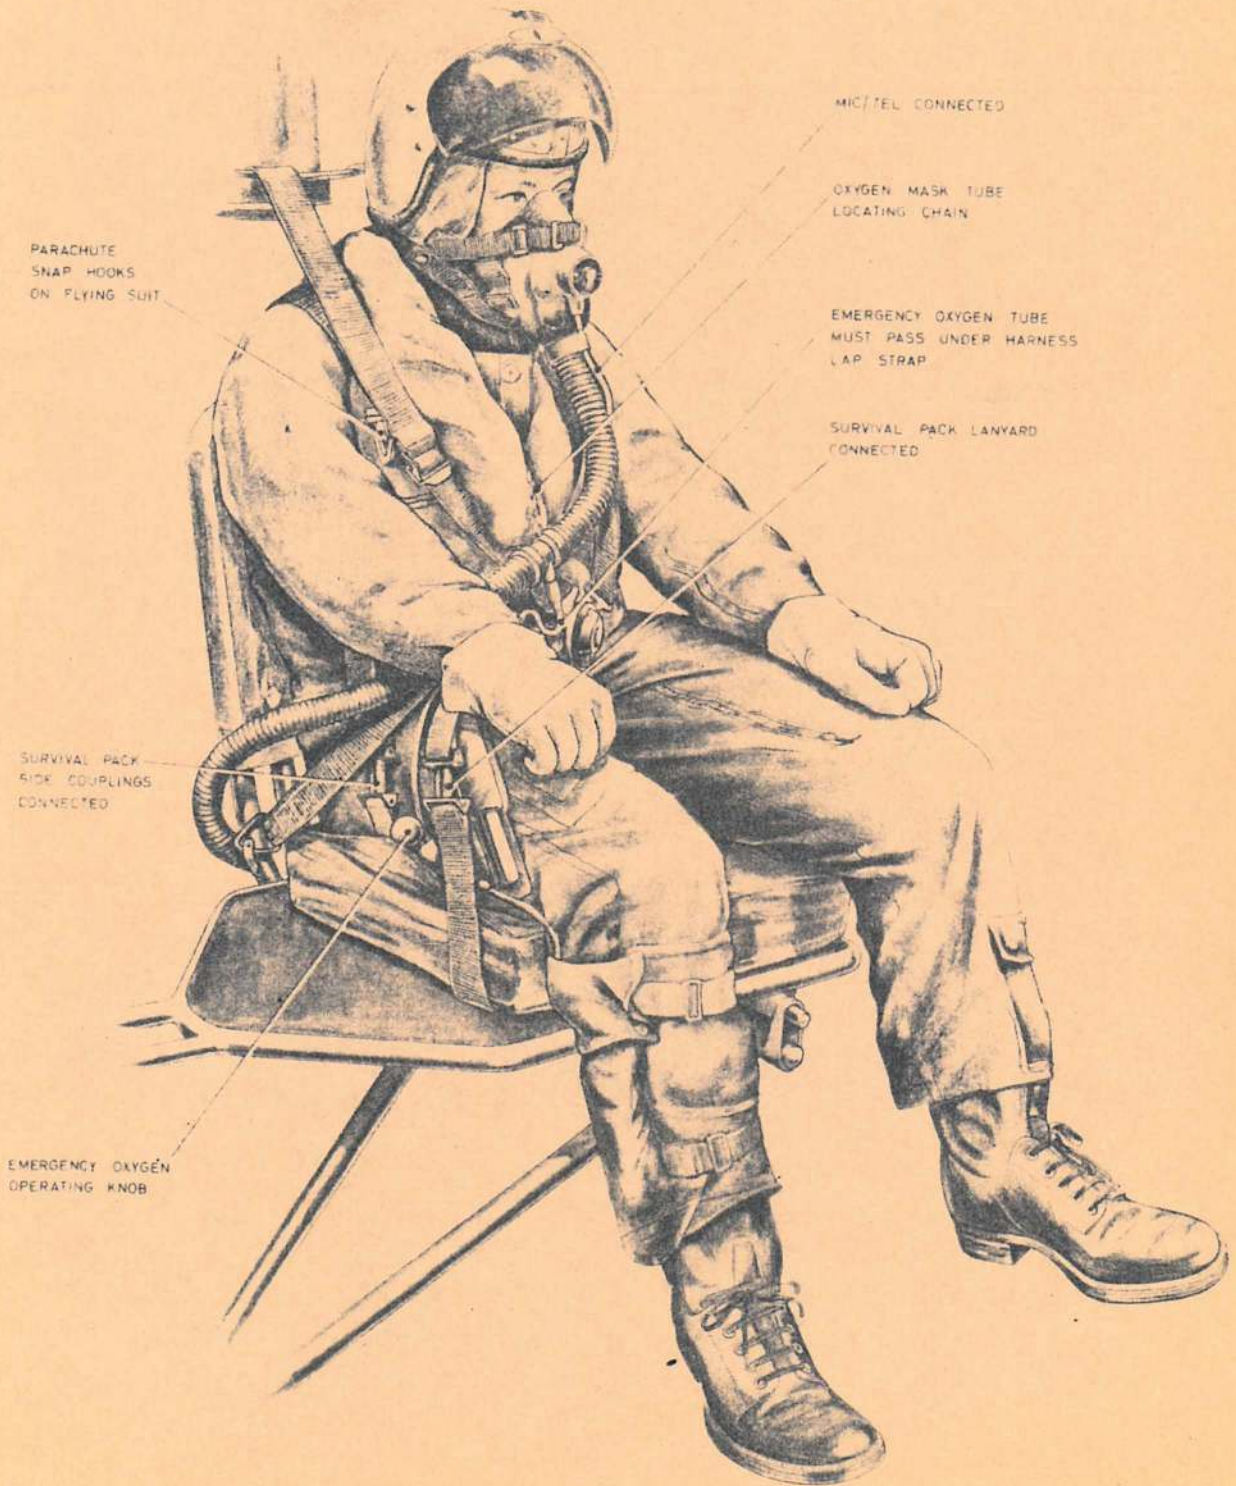

Fig. 8. The folding seat occupied
26. Strapping-in procedure is as follows: refer to fig. 8 for detail as necessary:—